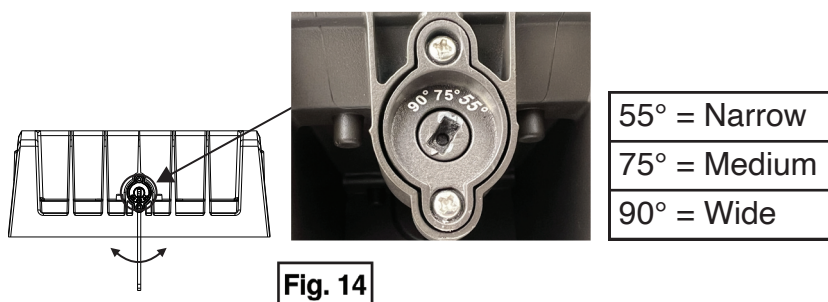

Fig. 14
- 2.) Using a flat head screwdriver, adjust the dial to the desired beam angle (**Fig. 14**).
- 3.) Replace the grommet (**Fig. 14**).